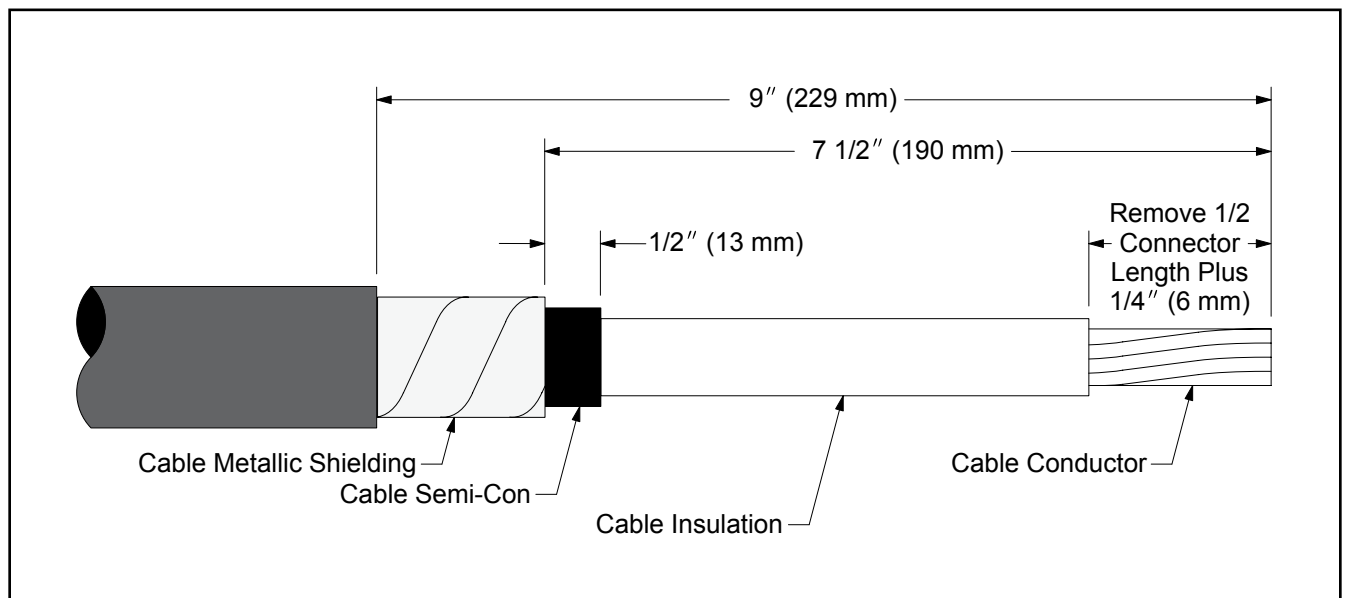

Figure 2
- a. Remove jacket a distance of 9" (229 mm) (*Figure 2*).